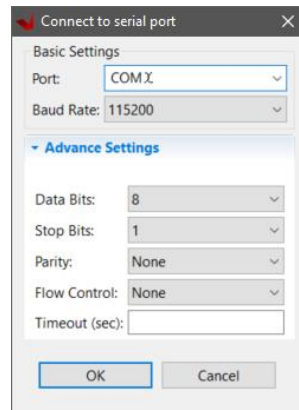

Figure 34
5. Leave **Timeout (sec):** blank (Figure 34)